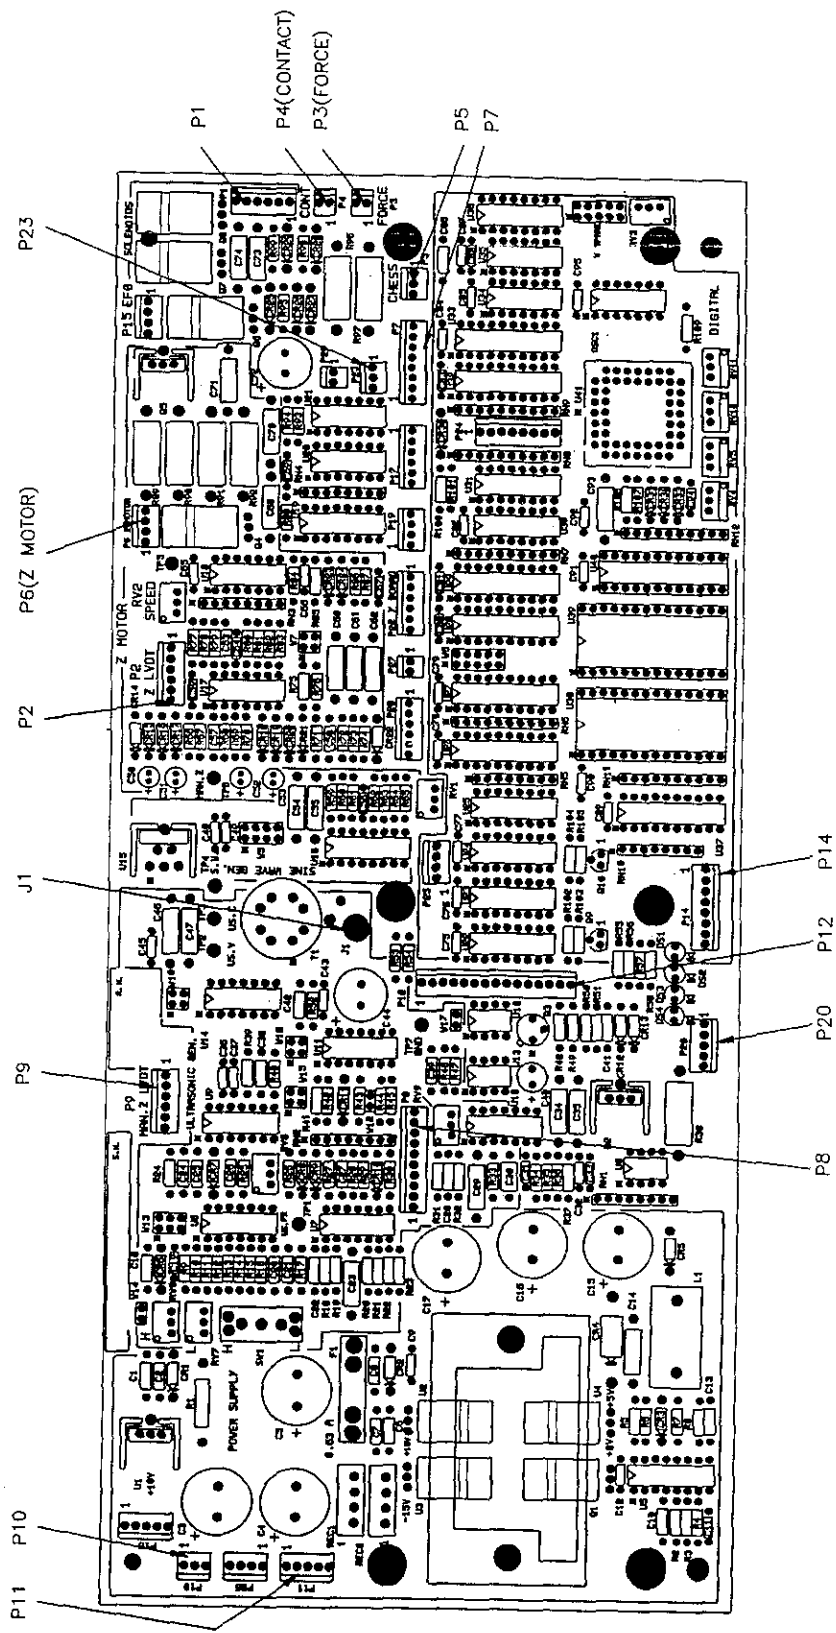

Figure 8-4 Logic Board Connection Points
Table 8-2 lists the connection points on the Logic Board for the 4123 and their functions. The physical location of each connector is shown in Figure 8-4.
- Step 5      Plug in all the cables (check against Table 8-2 and Figure 8-4 above).
- Step 2      Remove the back cover, and connect the oscilloscope (or multimeter) probe to pin TP4 (S.W.) and the ground to pin TP7 (GND) (see Figure 8-4). Check that you have a sharp, nondistorted sine wave on the oscilloscope of 18Vptp (or 6.37Vrms if using a multimeter).
- Step 1      Unplug the Transducer from the Logic Board (connection point J1, see Figure 8-4).